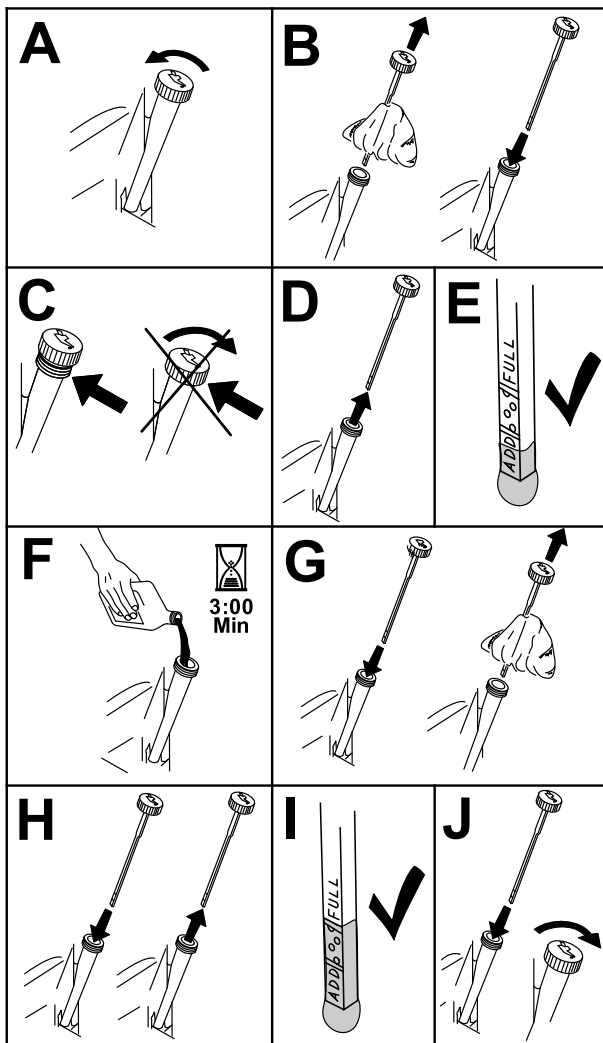

Figure 61
3. To keep dirt, grass clippings, etc., out of the engine, clean the area around the oil-fill cap and dipstick before removing it (Figure 61).